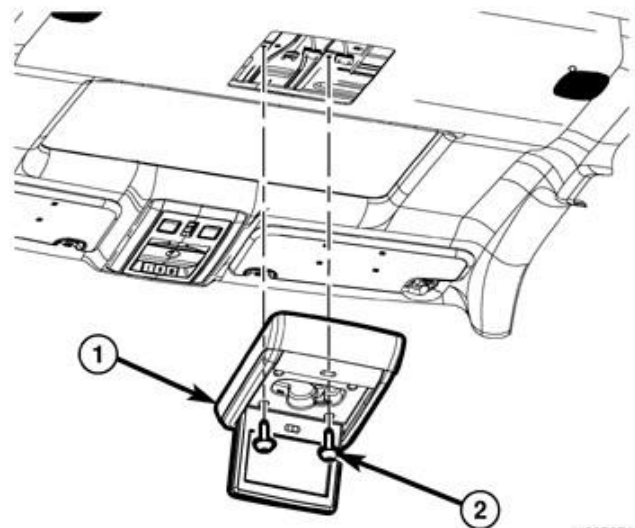
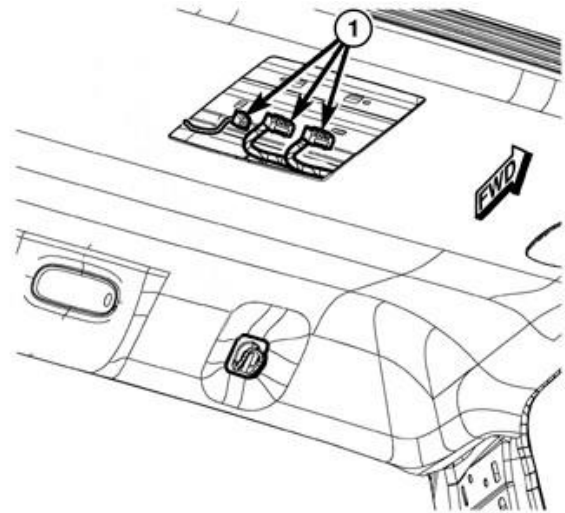

Figure 32 – Rear Seat DVD Monitor
Figure 33 – DVD Monitor Electrical Connectors
22. If equipped with DVD monitor, remove the screws (2) and separate the monitor (1) from the roof (Figure 32).
23. If equipped with DVD monitor, disconnect the electrical connectors (1) (Figure 33).
43. If equipped with DVD monitor, connect the DVD monitor electrical connectors (1) (Figure 33). Position the DVD monitor to the roof then install and tighten the screws (2) (Figure 32).